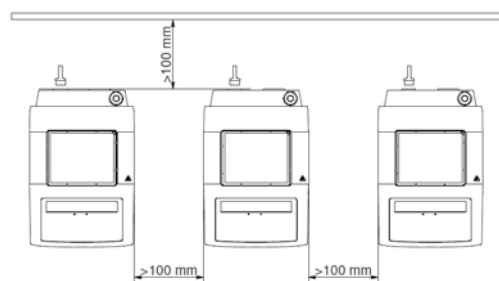

Fig. 2
- Observe the minimum distances between the devices, between the device and the wall and above the assembly (min. 800 mm), see fig. 2.